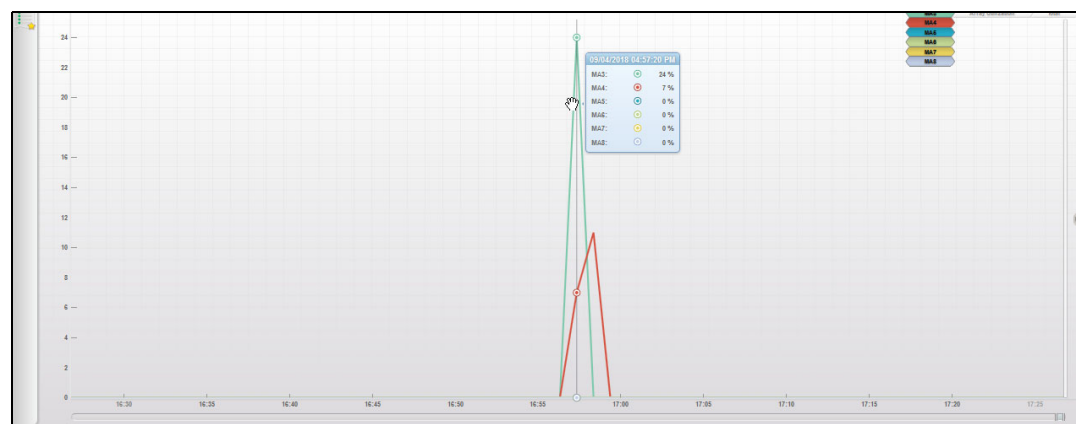

Figure 11-131 Array performance graph: Total Utilization
4. Draw the graph, which is shown in Figure 11-131.